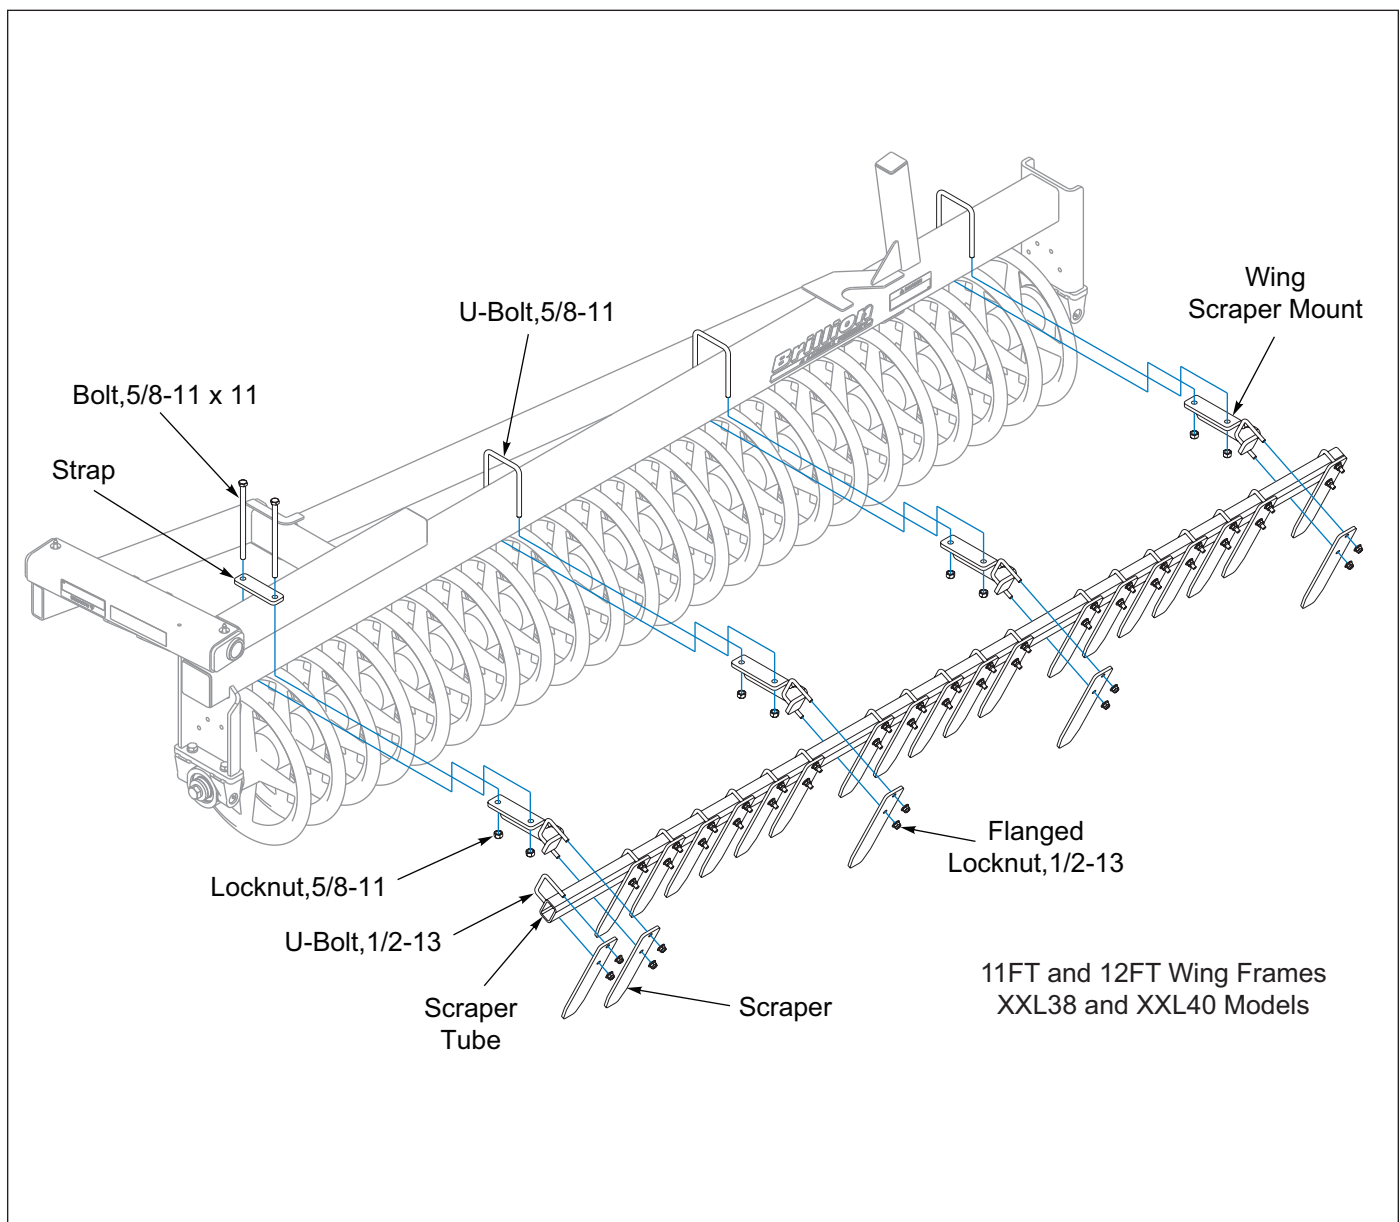

Figure 2-24: Wing V-Wheel Scraper, Single Tube - Optional
1. Place the Wing Rollers on level ground. On the frame double stacked rear tubes by the Wing Hinge, assemble a Wing Scraper Mount to the bottom of the frame rear tube by placing a Strap on the top of the frame double stacked short tube and attaching it with 1/2-13 x 11 Bolts and Flanged Locknuts. Assemble the other Wing Scraper Mounts to the bottom of the wing frame rear tube with 1/2-13 U-Bolts and Flanged Locknuts. **See Figure 2-24.** Do not tighten.